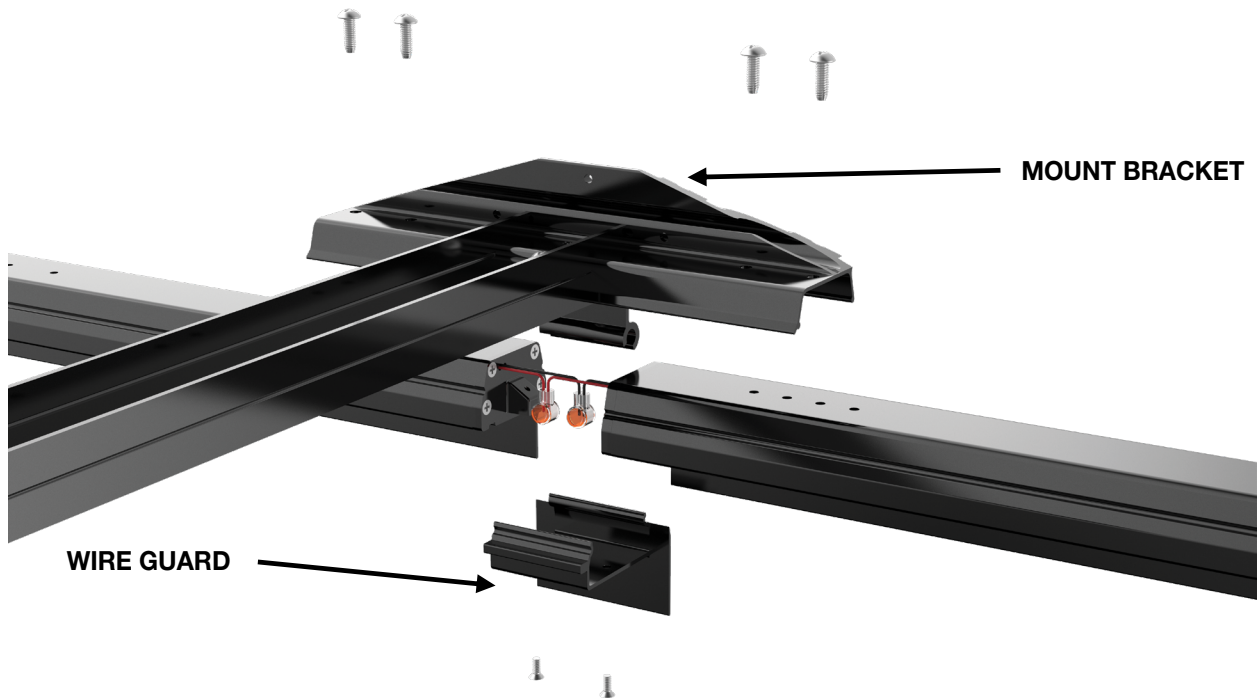

FIGURE 5: ELECTRICALLY CONNECTING ADJACENT FIXTURES
2. Connect the wires located under the Mount Bracket. Connect red to red and blue to blue. (see Figure 5).